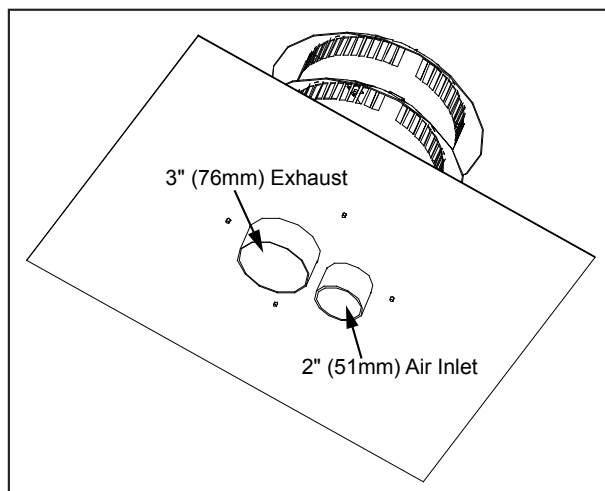

Figure 42: Vertical Vent Cap Underside.
6. Place a bead of high temperature silicone on the intake collar of the fireplace, slide the Ø2" (51mm) flex intake liner over the collar, secure the flex liner with three (3) sheet metal screws evenly spaced.
7. At the top of the chimney, apply a bead of Mill-Pac Black sealant to the Ø3" (76mm) pipe of the vent terminal (refer to Figure 42). Slide the flex liner onto the vent terminal and secure with three (3) sheet metal screws evenly spaced.
8. Place a bead of high temperature silicone on the intake collar of the vent terminal (refer to Figure 42). Slide the Ø2" (51mm) flex intake liner over the collar, secure the flex liner with three (3) sheet metal screws evenly spaced.